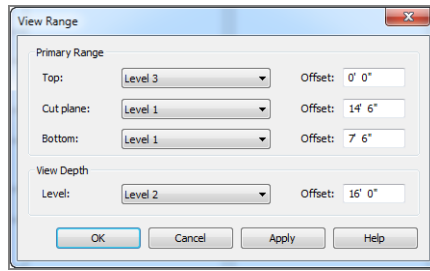

FIGURE 9.16: Configuring the view range for the crop region
5. Set View Depth Level to Level 2 with an Offset value of 16'-0" (4800mm), as shown in Figure 9.16.